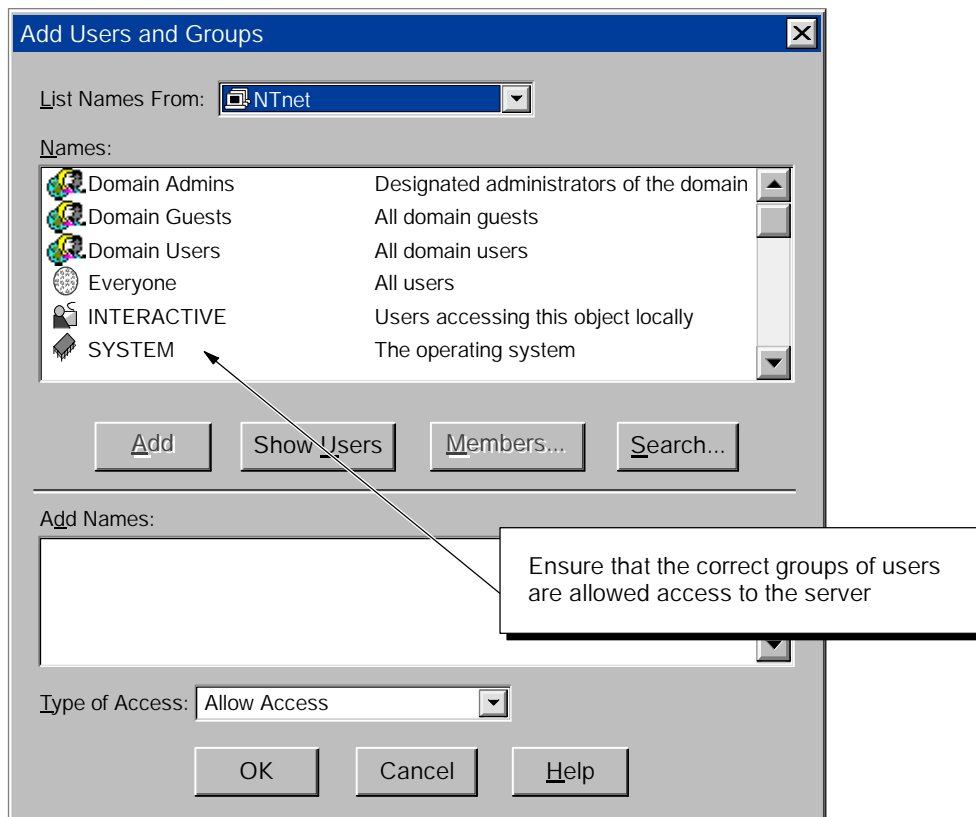

Figure D-10 Changing the Access Permissions for Users or Groups
3. If "Everyone" (or the appropriate subset of users) is not shown in the Permissions dialog Name list, click on the Add button to display the Add Users or Groups dialog box. See Figure D-10.
4. Use the Add Users and Groups dialog (Figure D-10) to add users/groups as required.